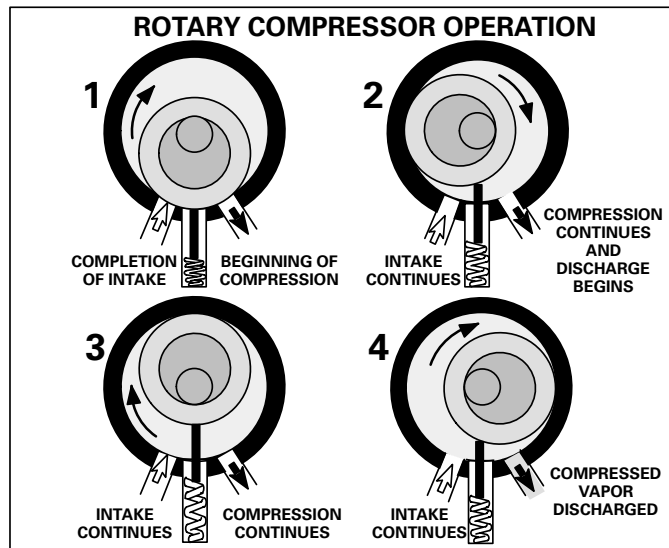

FIGURE 10
Figure 10 illustrates the four steps in a rotary compressor's continuous intake cycle. The spring-loaded blade is compressed fully at the beginning of an exhaust cycle. At this instant the compression is beginning (1). The roller rotates and compression continues (2). The suction port is always separated from the discharge port (3). Intake continues and the compressed vapor is discharged (4).